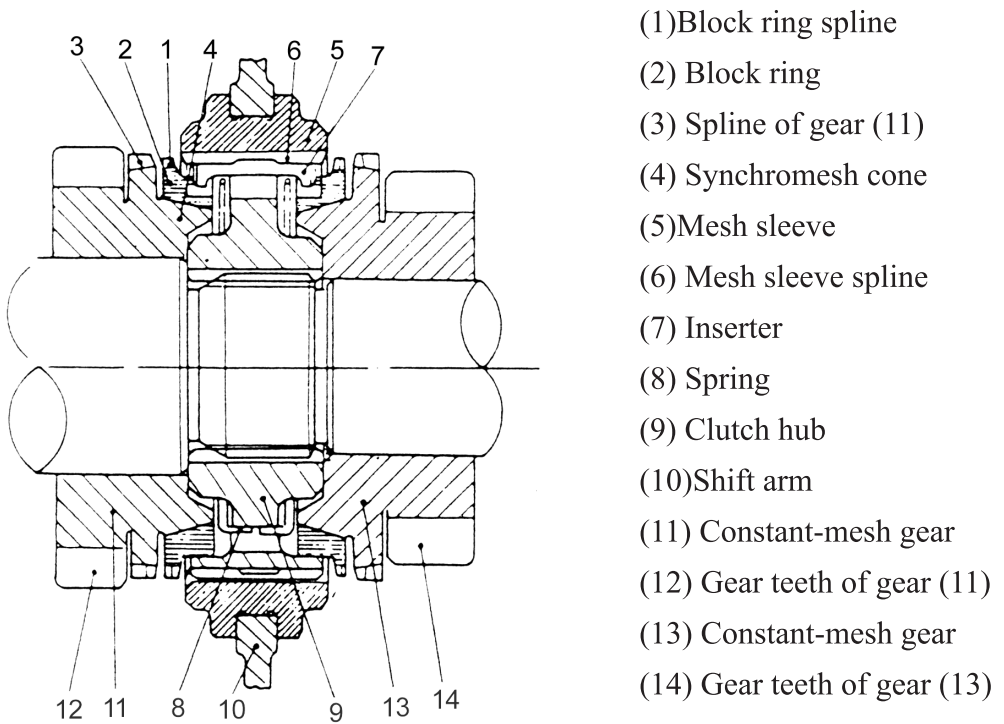

Fig.3-3 Synchromesh mechanism
3.2.6 Synchromesh mechanism (See Fig. 3-3)